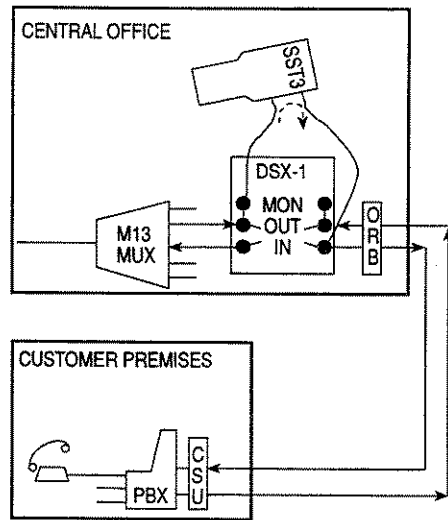

Figure 1.13.A Advance Talk/Listen
- 3) Configure the TSTSG item for THRU. In the THRU mode, the test set receives and retransmits the other 23 channels without disruption. Using the thru mode will cause a momentary hit on the circuit, as you are plugging into and unplugging from, the circuit. Refer to Figures 1.13.A, B and C for an illustration of how to configure the test set for connecting to a DSX-1 access point.